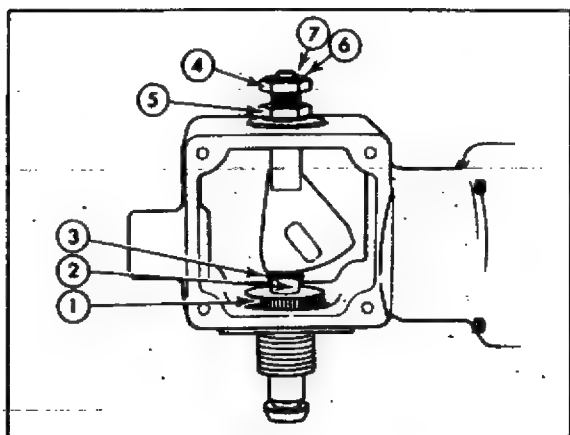

Fig. 60 Replacing Cam Assy.
1. Place the fixing sleeve with its washer into position from inside the housing Fig. 60.
Insert assembly into place from inside the housing, as shown in Fig. 60.